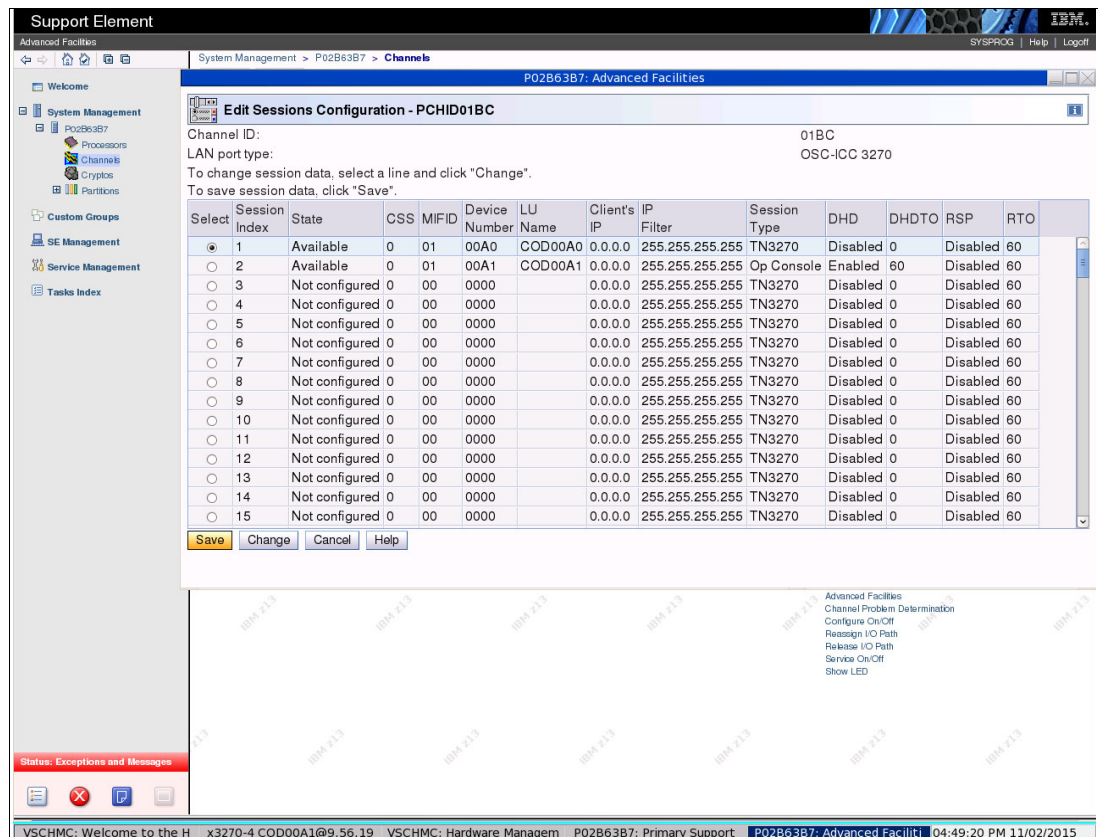

Figure 7-13 Defined Sessions panel
3. We select the session options and select **OK**. The Edit Sessions Configuration panel that includes the defined sessions is displayed, as shown in Figure 7-13.